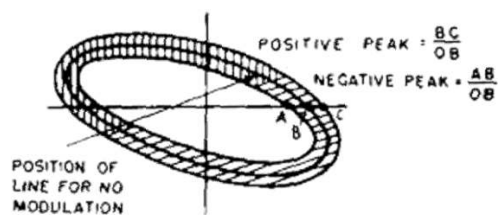
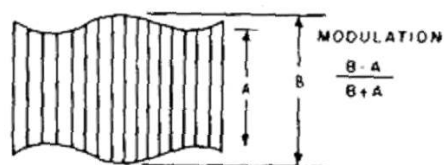
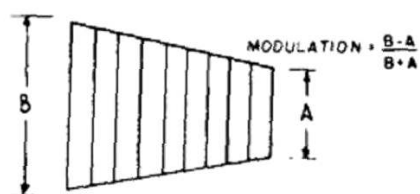

FIG. 10
FIG. 11
FIG. 12
**6—MODULATION MEASUREMENT**—There are three methods of measurements: phase splitting method producing an elliptical pattern (Fig. 10), modulated wave envelope (Fig. 11), and the trapezoidal method (Fig. 12).